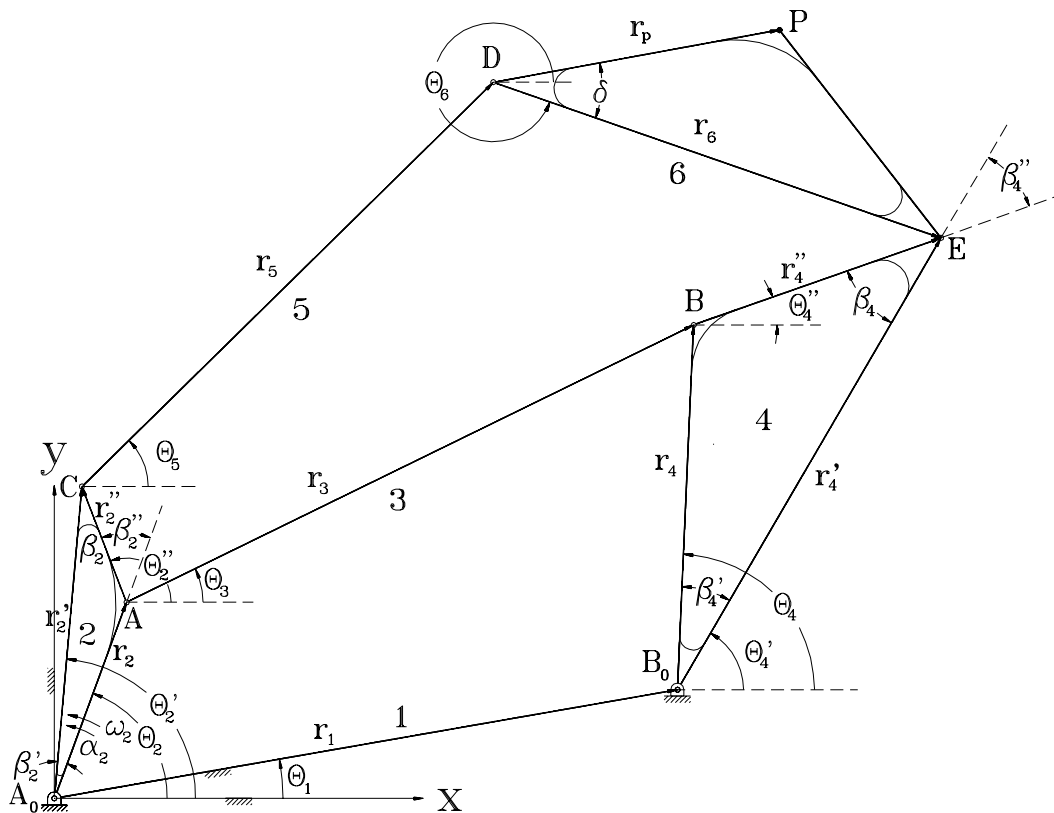

Figure 5.21: Stephenson (I) Sixbar Linkage
5.4 Stephenson Six-bar (I) Linkage
A Stephenson (I) mechanism composed of a fourbar linkage and a restricted moving fivebar linkage is shown in Figure 5.21. The rigid-body input and output links of fourbar linkage are also the moving links of the fivebar linkage, thus the inputs and outputs of the two linkages are related.